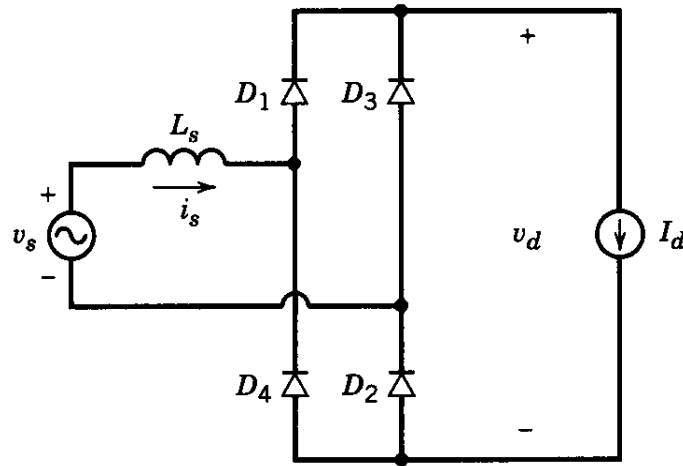

Figure 1a.
1. In the single-phase rectifier shown below in Fig 1a., $L_s = 1\text{mH}$ and $I_d = 10\text{A}$. The input voltage v_s has the pulse waveform shown in Fig 1b with the amplitude of 200V at 50Hz.